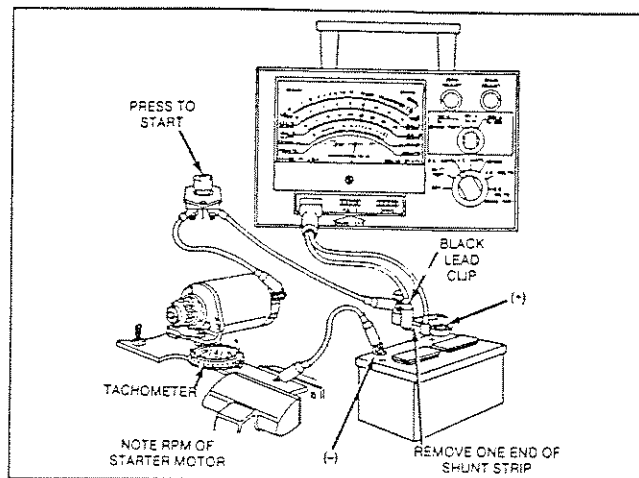

Figure 6. Testing Starter Motor Performance
- a. See Figure 6. Connect the starter motor, a fully charged 12 volts battery, tachometer and an ammeter as shown.